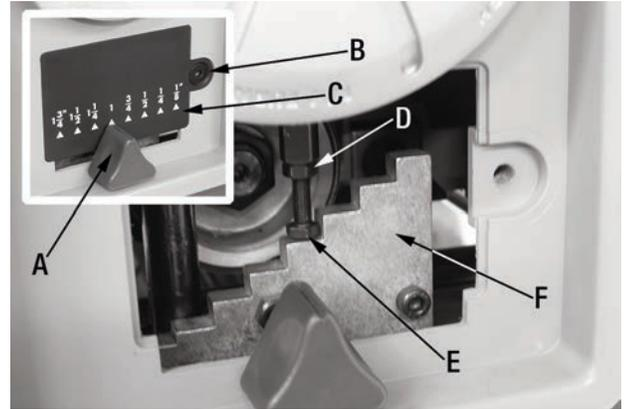

FIGURE 8
The pre-set depth stop Fig.8 is adjusted at the factory, but in some rare cases it may eventually be necessary to readjust. To adjust the pre-set depth stops:
1. Set the pre-set depth stop to the 1" position by sliding the knob (A) Fig.8.
4. Remove the flat head allen screw (B) Fig.8 with the supplied 4 mm hex. key, then pull and slide the cover (C) downwards to remove it.
5. Loosen the hex. nut (D) Fig.8.
6. Turn the stop bolt (E) Fig.8 a 1/4" turn in the required direction in order to re-adjust the stop bolt against the stop plate (F), retighten the hex. nut (D).
7. Once the adjustment is finished, re-install the cover (C).
- 3) Remove the flat head allen screw (B) Fig.8 with the supplied 4 mm hex. key, then pull and slide the cover (C) downwards to remove it.